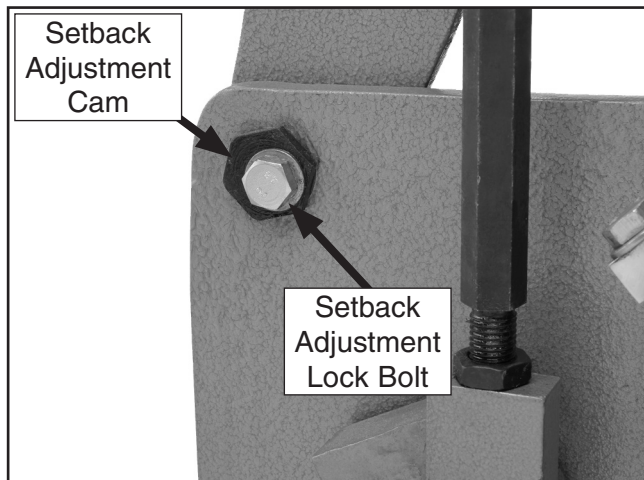

Figure 7. Setback adjustment controls.
1. Unlock the clamping leaf, loosen the setback adjustment lock bolts shown in **Figure 7**, and rotate the setback adjustment cams evenly to move the clamping fingers.